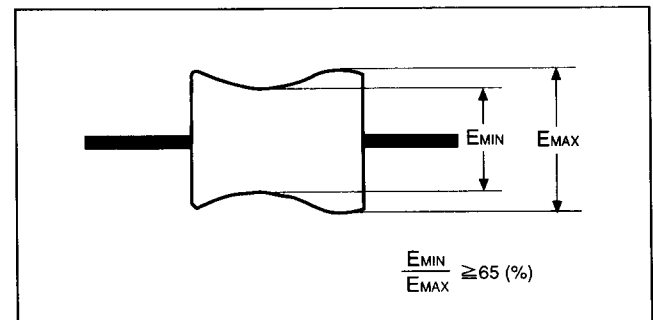

Fig. 32
- 2) Confirm that the minimum amplitude ( $E_{MIN}$ ) of the RF waveform is 65 % or more of the maximum amplitude ( $E_{MAX}$ ). (Refer to Fig. 32)